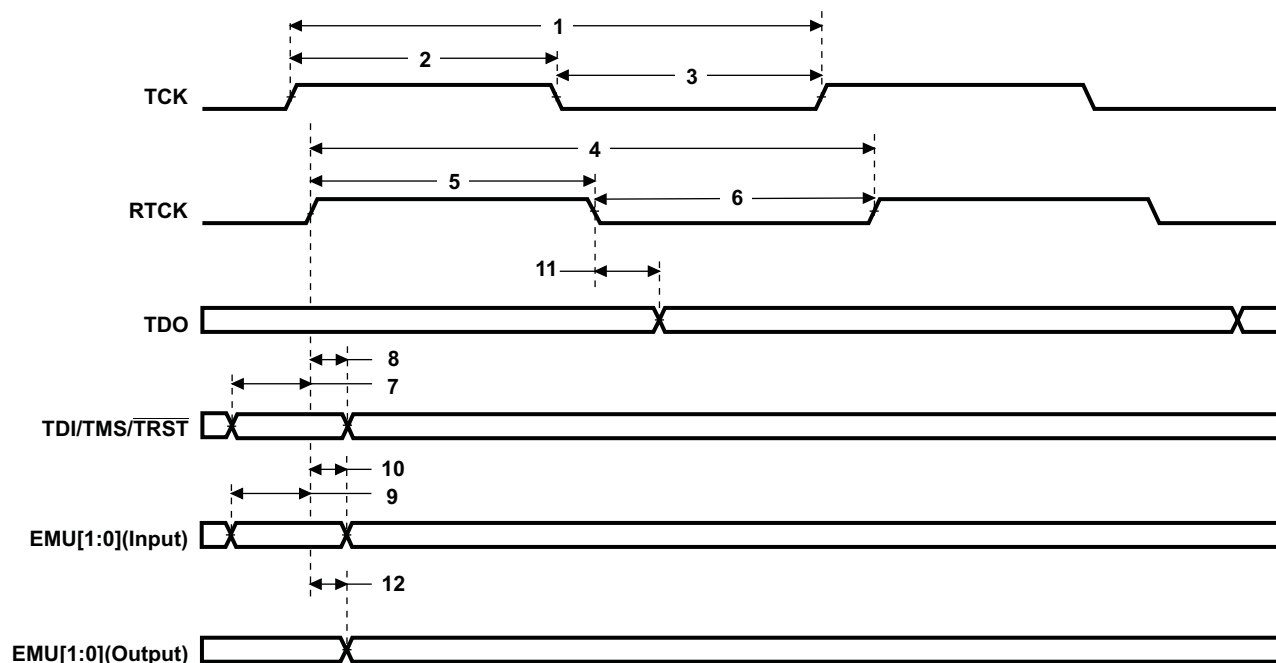

**Figure 7-97. JTAG Test-Port Timing**
**Table 7-150. Timing Requirements for JTAG Test Port(1) (2) (see Figure 7-97)**
(1) T = TCK cycle time in ns. For example, when TCK frequency is 20 MHz, use T = 50 ns.
(2) R = RTCLK cycle time in ns. For example, when RTCK frequency is 20 MHz, use T = 50 ns.
**Table 7-151. Switching Characteristics Over Recommended Operating Conditions for JTAG Test Port(1) (see Figure 7-97)**